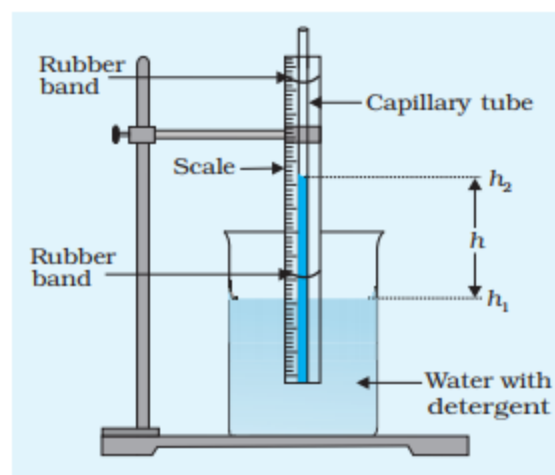

Fig. A 11.2: To study capillary rise in water and detergent mixed in it
4. Place the half filled beaker below the lower end of the scale and gradually lower down the scale till its lower end get immersed below the surface of water in the beaker as shown in Fig. A 11.2.